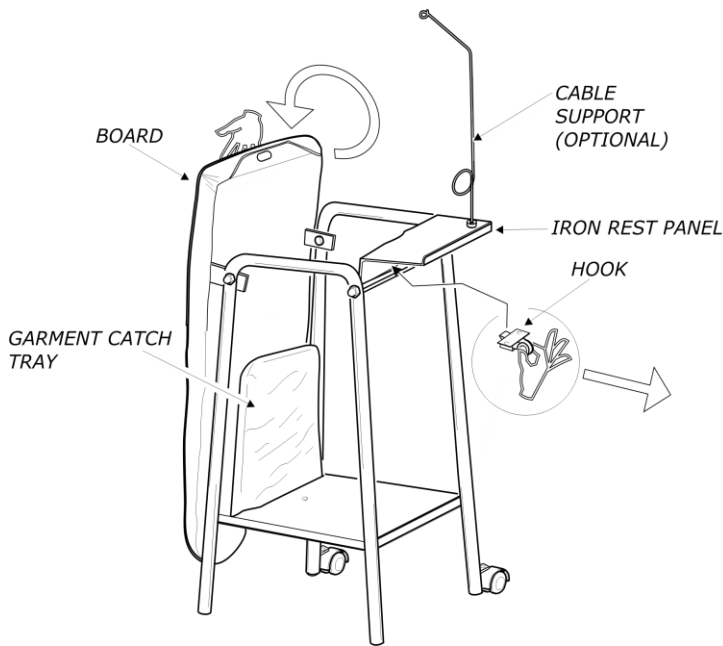

Fig. 2
2. pull the "hook" towards the direction indicated by the arrow and with the other hand accompany the board till it stops (fig. 2);